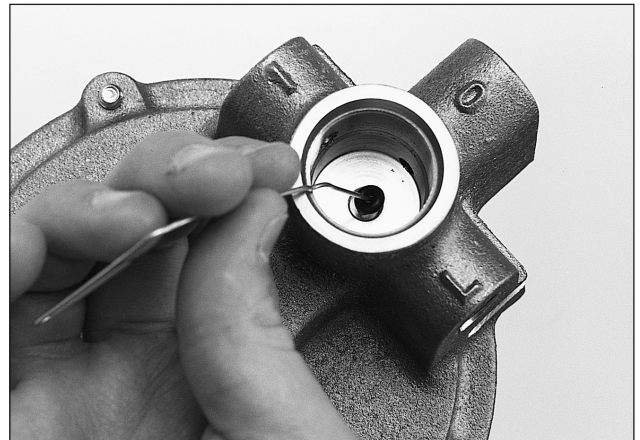

Figure 18
2. Remove the Stem O-ring from the pilot body using a suitable tool. Be careful not to scratch the O-ring Groove (refer to Figure 18).